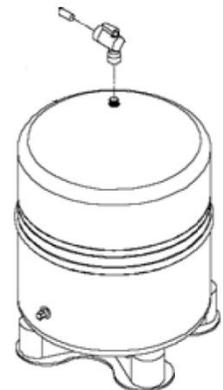

Figure 9
- Locate the Tank Ball Shut Off Valve. Tighten the Tank Ball Shut Off Valve with a wrench onto the tank nipple 7-8 turns, being careful not to cross thread or over tighten. See Figure 9.